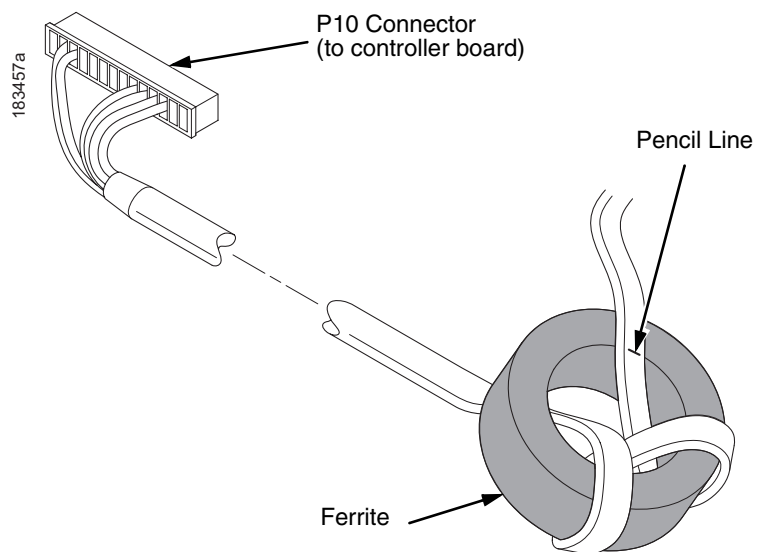

Figure 5. Wrapping the Power/Data Cable Around the Ferrite
8. Using the P10 connector end of the power/data cable, insert the cable through the ferrite. (Figure 5.)